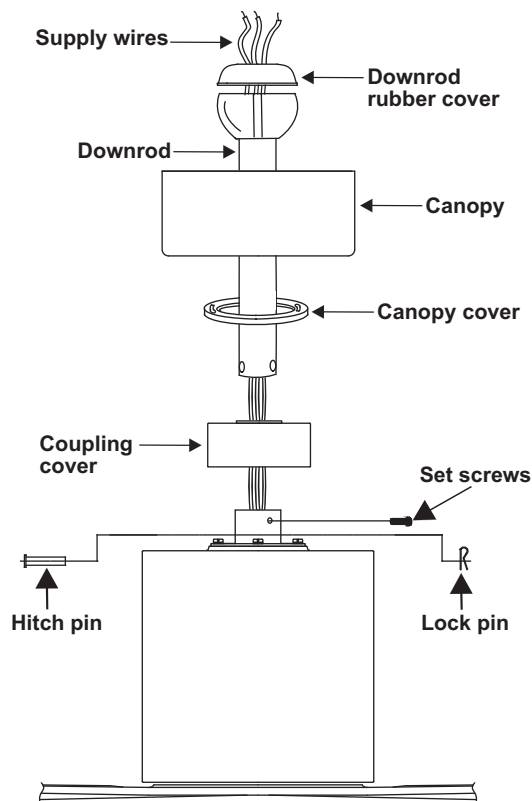

Figure 11
5. Loosen the two set screws and remove the hitch pin and lock pin from the central shaft/top coupling of the motor assembly. Doing so will allow the down rod to enter the central shaft. (Fig. 11)
6. Route wires exiting from the top of the fan motor through the coupling cover, canopy cover and canopy and then through the ball/downrod. Place downrod rubber cover onto the hanger ball. (Fig. 11)
7. Align the holes at the bottom of the downrod with the holes in the collar on top of the motor housing. Carefully insert the hitch pin through the holes in the collar and downrod. Be careful not to jam the pin against the wiring inside the downrod. Insert the lock pin through the hole near the end of the hitch pin until it snaps into its locked position. (Fig. 11)